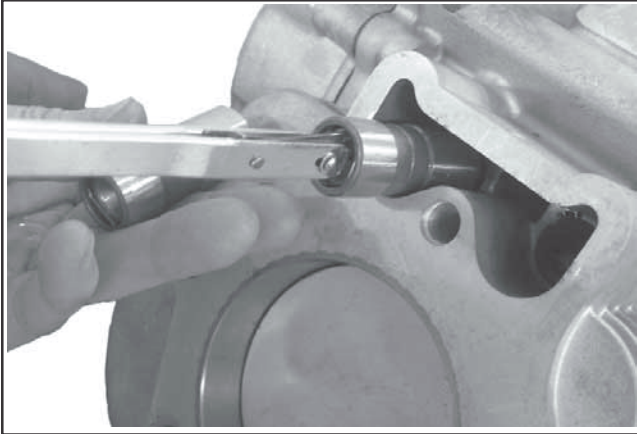

Figure 8-42. Removing Hydraulic Lifters.
6. Remove the lifters from the lifter bores. Use a Hydraulic Lifter Tool. Do not use a magnet to remove lifters. Mark the lifters by location, as either intake or exhaust and cylinder 1 or 2. Hydraulic lifters should always be reinstalled in the same position. See Figures 8-42 and 8-43.